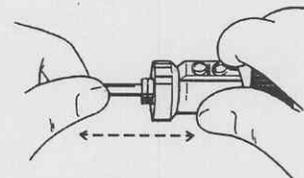

Figure 2-22. Cutter/bur removal.
h. Remove any cutter or bur by grasping it in one hand and grasping the APS handpiece in the other hand and pulling them apart. (Refer to figure 2-22.)